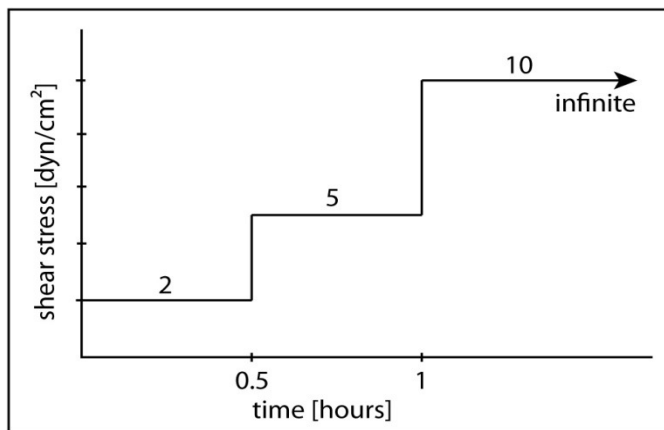

Figure 26 Shear stress profile of demo experiment
The flow rate profile is programmed to create a stepwise increase of the shear stress as shown in Figure 26.
- Connect an unsterile Slide and perform “Demo experiment” (Tutorial→Load demo setups→Demo experiment). See Figure 26 for shear stress profile. Let it run for at least 3 hours and confirm that the flow is running and the reservoirs do not run dry.